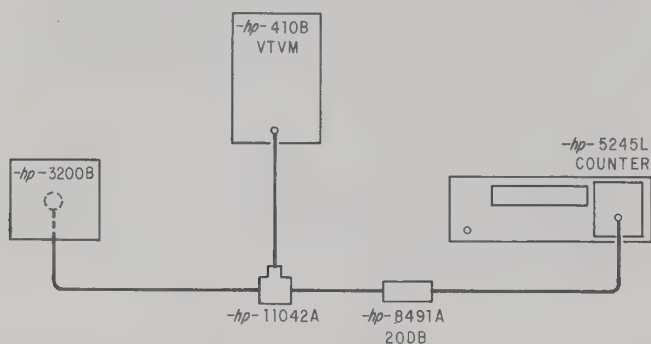

Figure 5-7. RF Calibration Setup
b. Connect the equipment as shown in Figure 5-7.